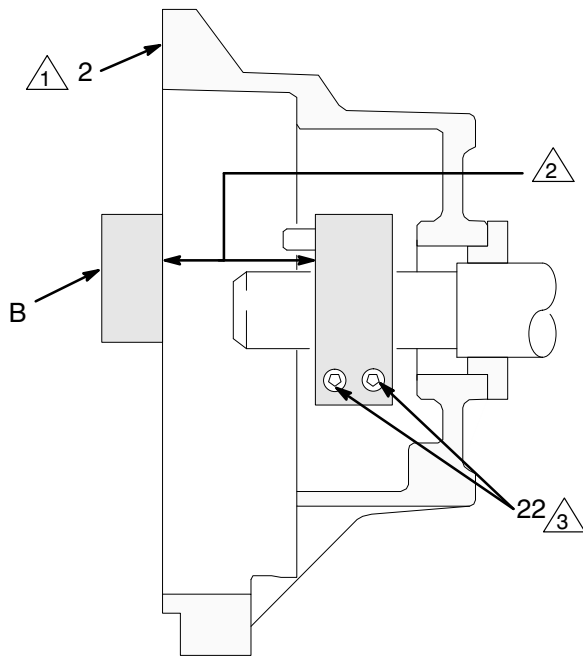

Fig. 21
4. Press the **clamp (3)** onto the engine shaft (A). Maintain the 1.084 inch \pm 0.01 (27.53 \pm 0.25 mm) dimension shown in Fig. 21.
- 4 Apply low strength thread locker to set screws (25).